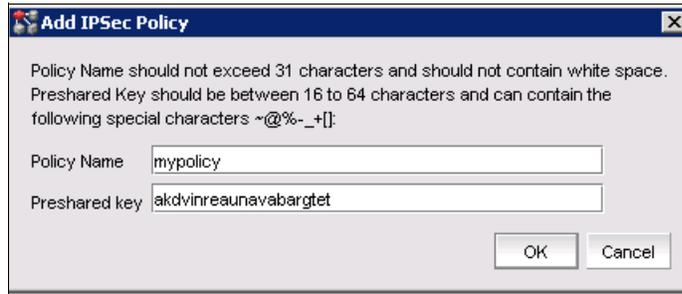

Figure 4-18 Enter policy key
7. Click **OK** to confirm the settings for the IPsec policy (Figure 4-18).